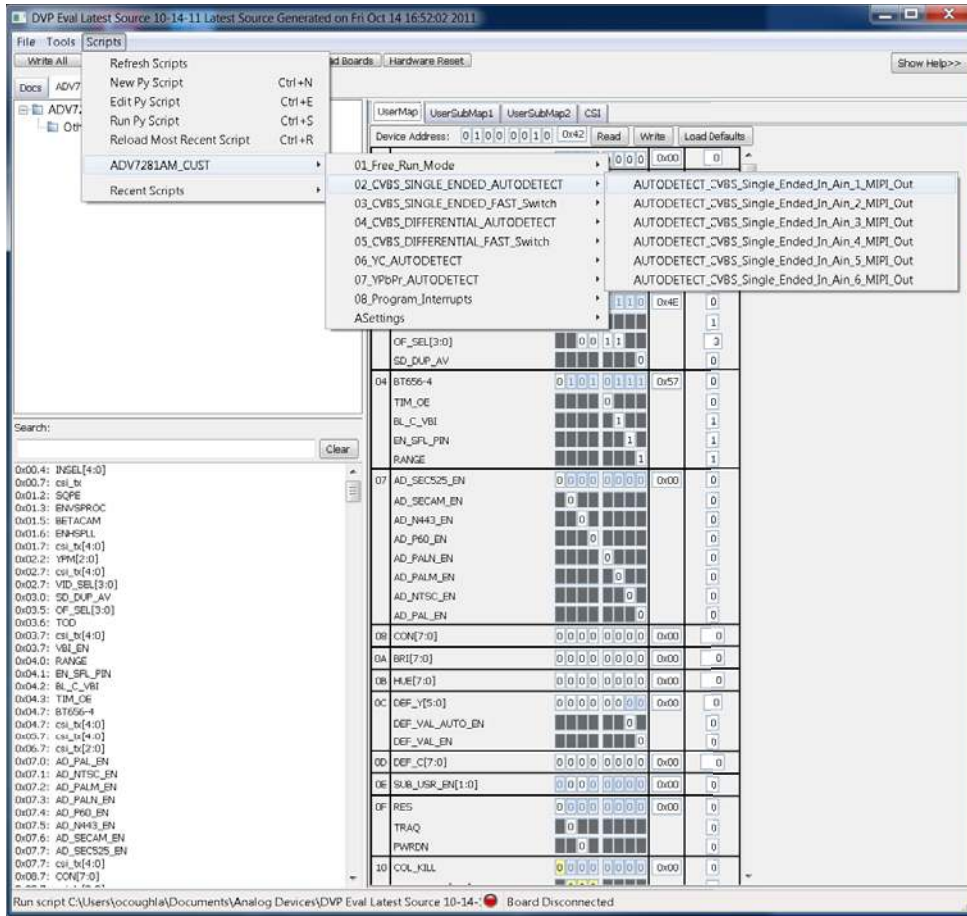

Figure 8. Running ADV7281A-M Script on DVP Eval Software
5. Select **Scripts > ADV7281AM\_CUST** to select and run a script to configure the evaluation board (see Figure 8).
6. To monitor the registers of the **ADV7281A-M**, click on the associated device tab within the **DVP Eval Software** (see Figure 8).